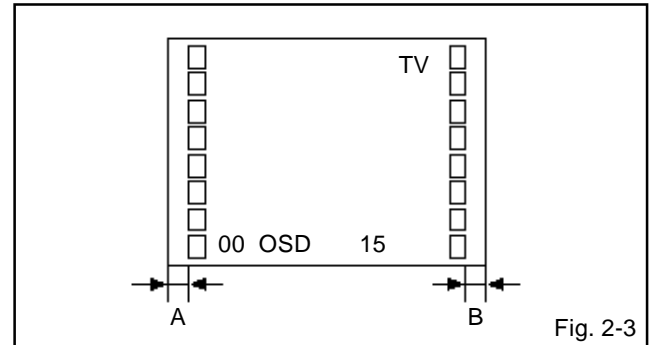

Fig. 2-3
2. Press the VOL. UP/DOWN button on the remote control until the difference of A and B becomes minimum. (Refer to Fig. 2-3)